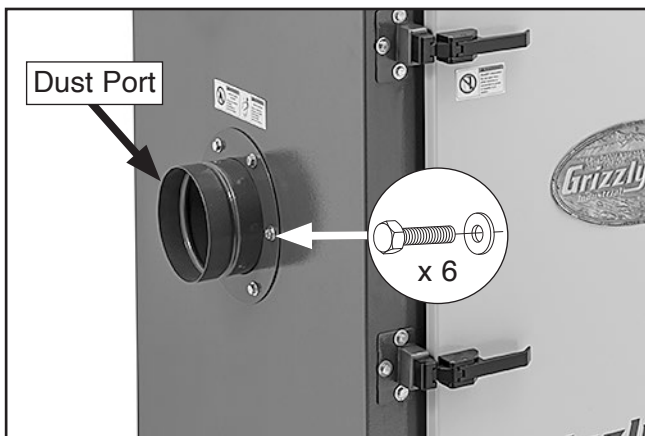

Figure 12. Dust port installed.
1. Attach dust port with (6) $\frac{5}{16}$ "-18 x $\frac{3}{4}$ " hex bolts and $\frac{5}{16}$ " flat washers (see **Figure 12**).